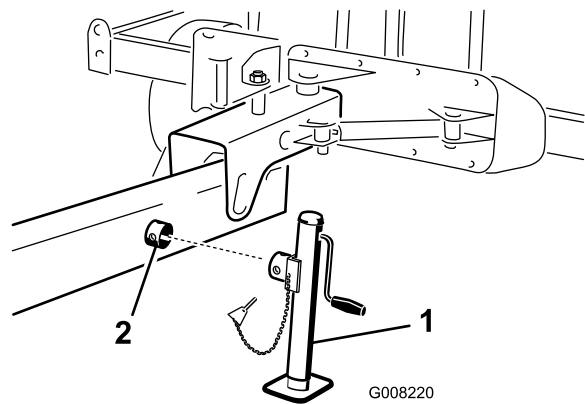

Figure 10
- 1. On the side of the tow hitch, slide the jack onto the jack tube (Figure 10).
- 2. Rotate the jack stand to align the holes and secure with the lynch pin (Figure 10).